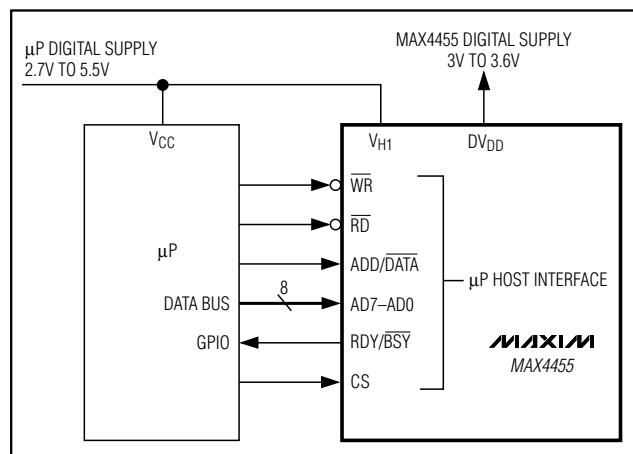

Figure 5. μ P Host Interface
The MAX4455 μP interface includes a byte-wide address/data bus (AD7–AD0) for parallel programming of the MAX4455, write strobe input (\overline{WR}), read strobe input (\overline{RD}), active-high chip-select input (CS), address or data-select input (ADDR/ \overline{DATA}), and a ready/busy hand-shaking output (RDY/ \overline{BSY}) (Figures 5 and 6). The MAX4455 allows for interfacing to a μP powered from a different supply than the MAX4455 by connecting V_{H1} to the μP supply. For example, the MAX4455 can be operated with a single 3.3V supply, while the μP interface can be operated with 3.3V or 5V logic levels by connecting V_{H1} to the μP power supply.